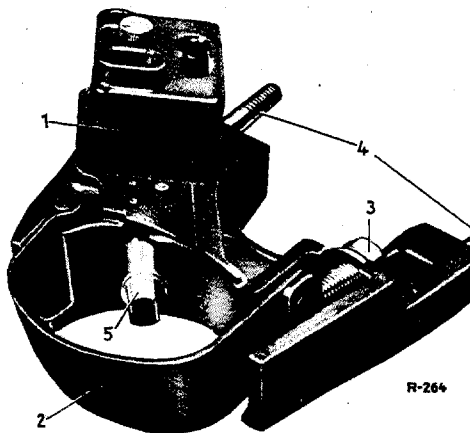

Fig. L 8/1
5. Remove the hexagon nuts (3) of the tightening strap at the steering column bracket and remove the tightening strap forward (in the direction of travel) (Fig. L 8/1).